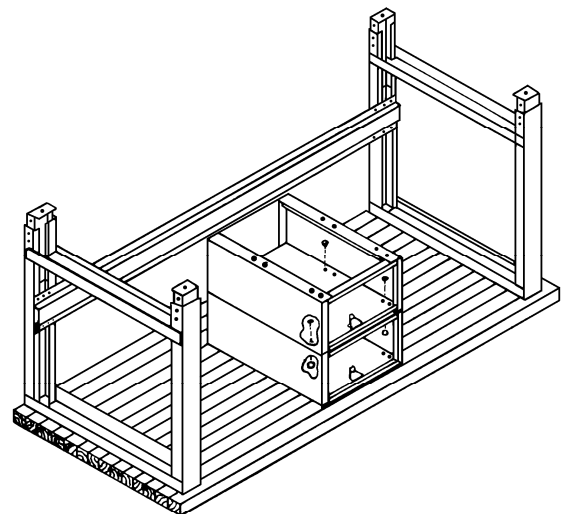

FIGURE 28
- See Step 4 of the tier drawer installation instructions, above, for proper installation of second tier drawer. (See also Figure 28).